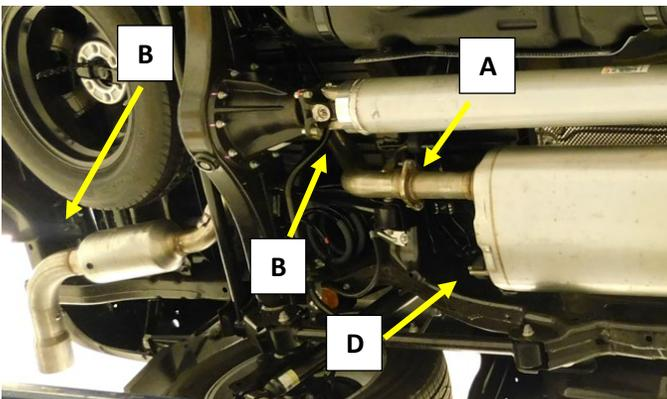

Figure.1
4. Remove the (2x) 14mm nuts from the tail pipe flange connection (A) just after the OEM muffler. Remove the Rubber hanger isolators (B) from the hanger rods and remove the OEM tail pipe. **Fig.1**
6. Remove the rubber isolators (D) from the muffler hanger rods then remove the muffler assembly. **Fig.1/2**